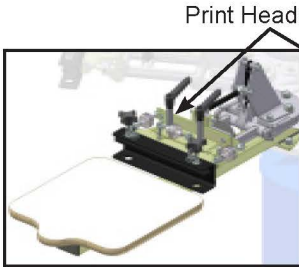

Fig. 7
1. Lower **all** print heads (Fig. 7). Tighten the (2) bolts (Fig. 8) that secure the registration guide bracket to the arm.